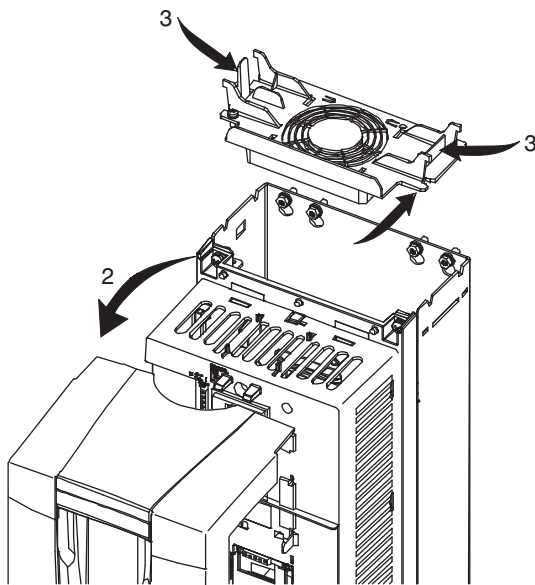

Fig. 36 — Remove Top Cover on AHC550 VFD
3. Press together the retaining clips on the top cover and lift (see Fig. 36).